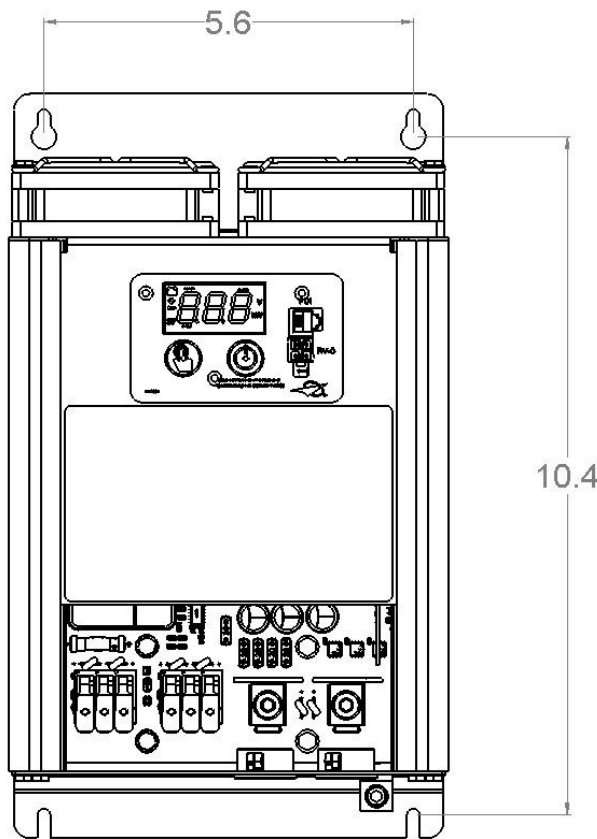

Figure 3: PD1610 Mounting Hole Pattern
- Inverter can be secured to a flat surface using the side mounting slots. See Figure 3 and Figure 4 for mounting hole pattern.